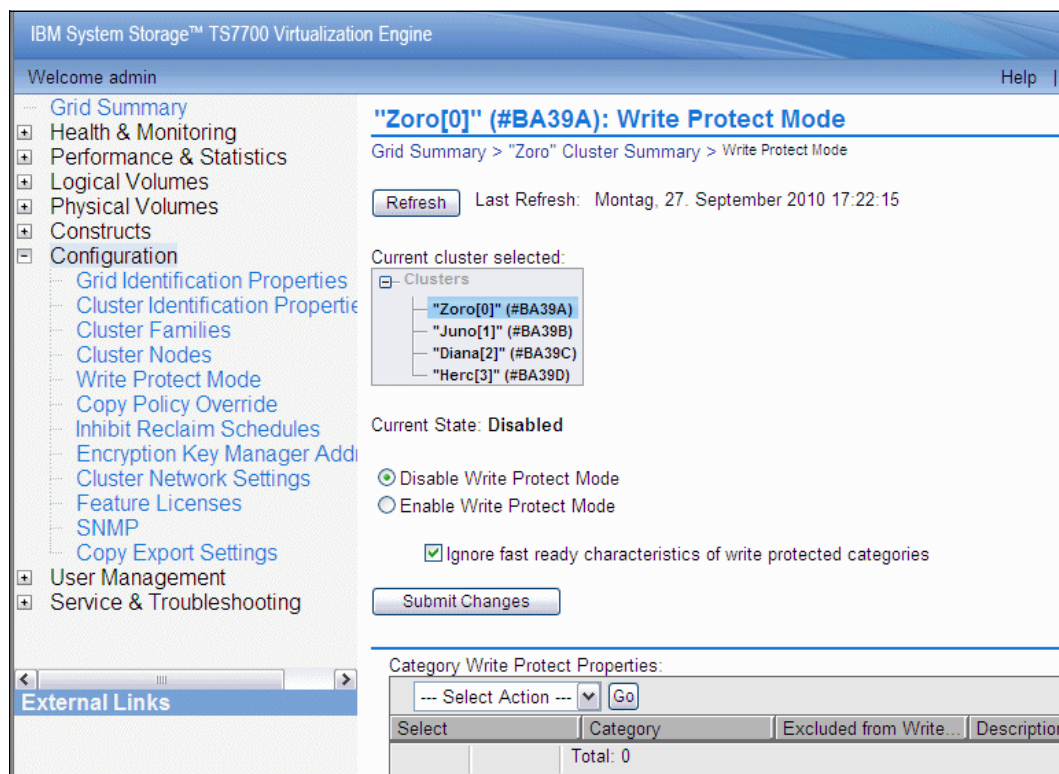

Figure 10-22 TS7700 Write Protect Mode window
2. On the MI, select **Configuration** → **Write Protect Mode**. The window shown in Figure 10-22 on page 765 opens.
5. In the DR Cluster MI, use the Write Protect Mode window (shown in Figure 10-22 on page 765) to define the entire set of categories to be excluded from Write-Protect Mode, including the Error and the Private Categories.